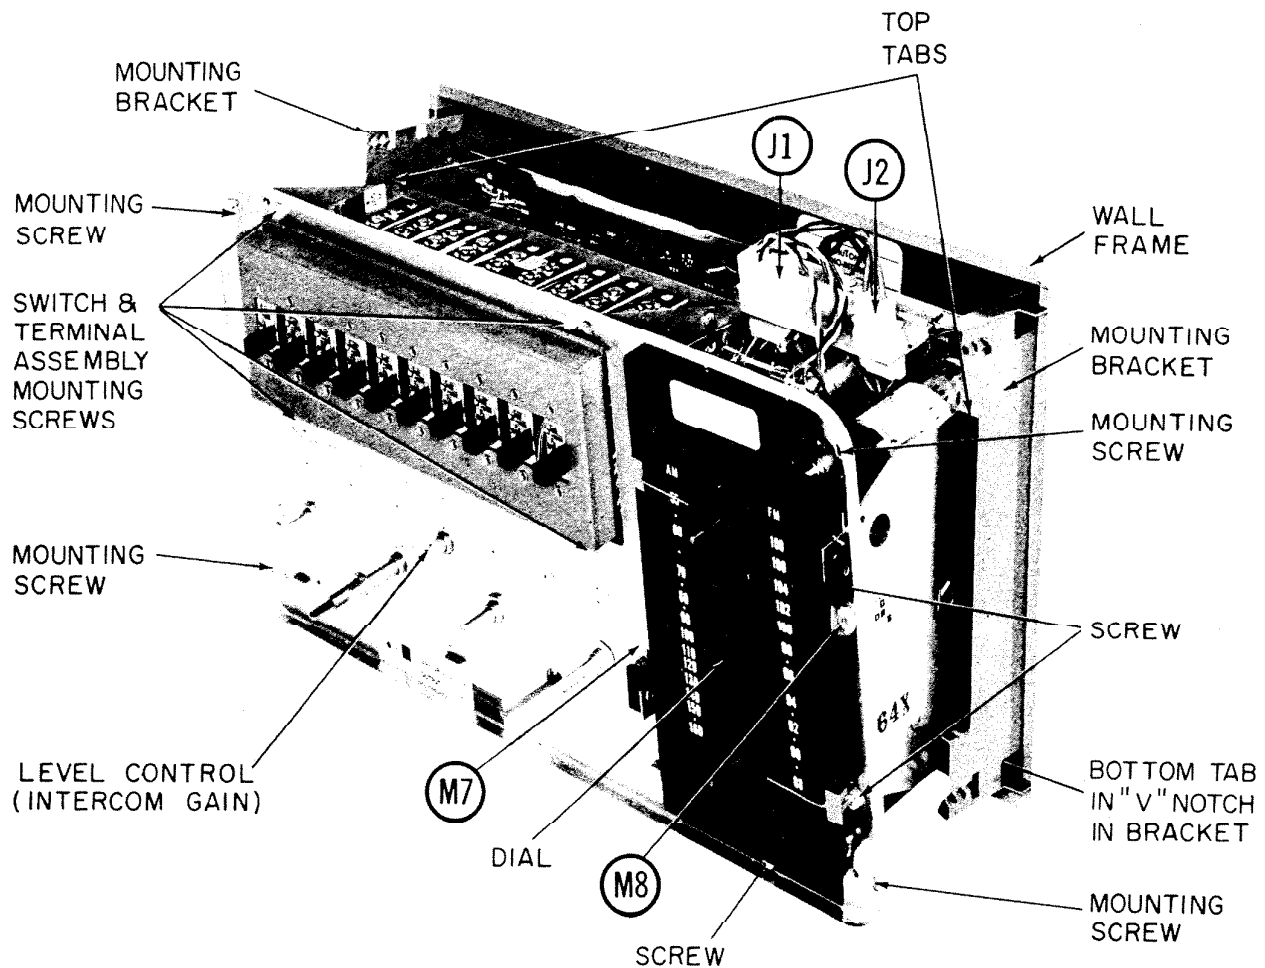

Fig. 2. Master station with front panel removed.
4. Remove four (4) mounting screws (Fig. 2) securing master unit to mounting brackets in wall housing.
5. Lift master unit forward and position bottom tabs on chassis sides in the "V" notches on mounting brackets (Fig. 2). The master unit is now self-supporting and will operate in this
3. Remove four (4) screws (Fig. 2) securing switch and terminal assembly to master unit and remove assembly from master.
8. To gain access to components in the FM tuner, remove screw (Fig. 2) in dial, lift dial, remove two (2) screws (Fig. 2) securing end support bracket to front plate and remove end support bracket.